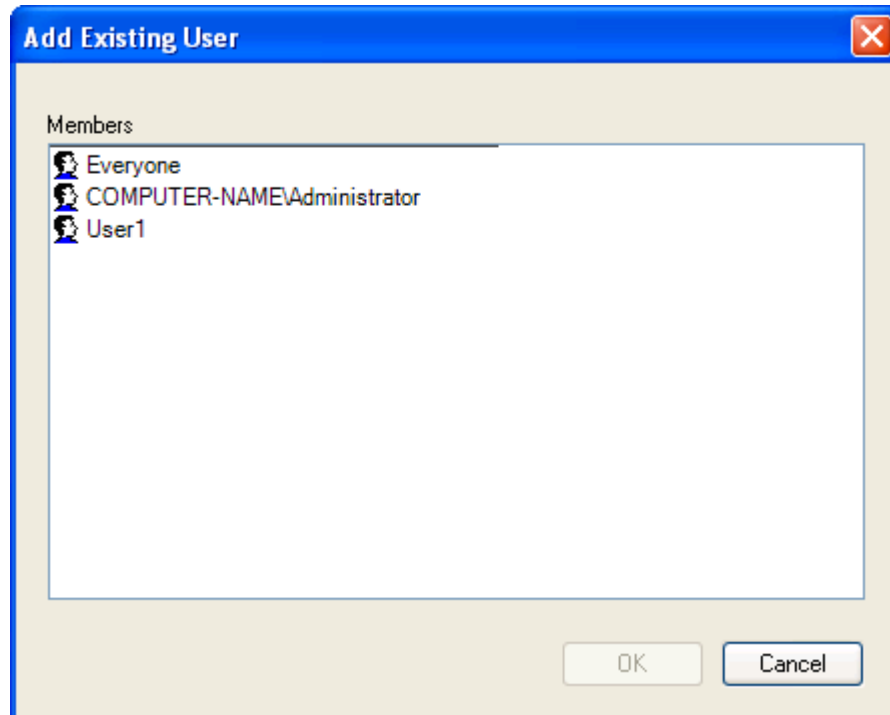

Figure 60 - Add Existing User Window
1. Click on the **Add** button. The **Add Existing User** window (Figure 60) appears.